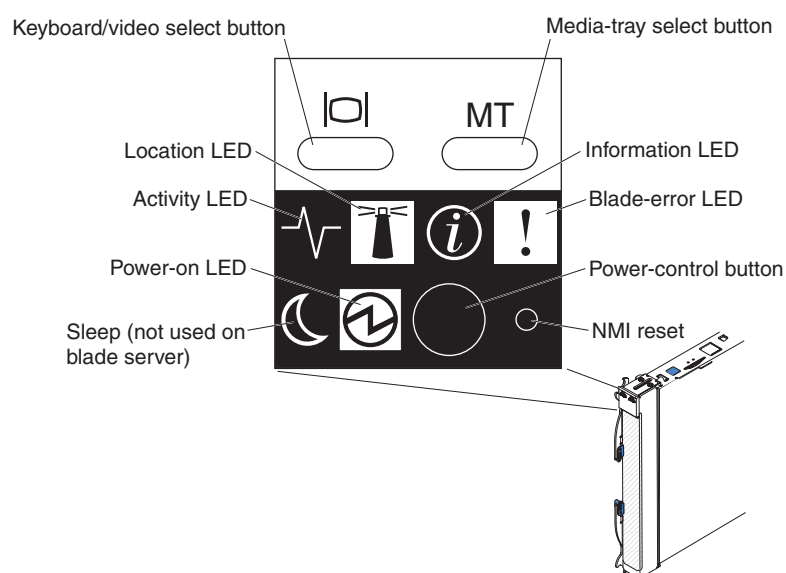

Figure 2. Blade server control panel buttons and LEDs
**Note:** Figure 2 shows the control-panel door in the closed (normal) position. To access the power-control button, you must open the control-panel door.